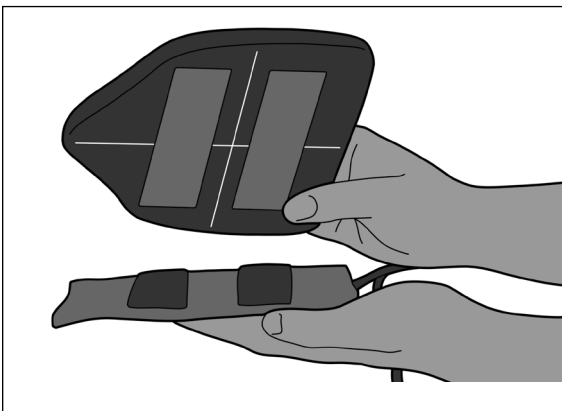

Fig. 2
2. Ensure paddle is appropriately aligned for attachment to the bladder (Fig. 2). Align hook-and-loop fastener.